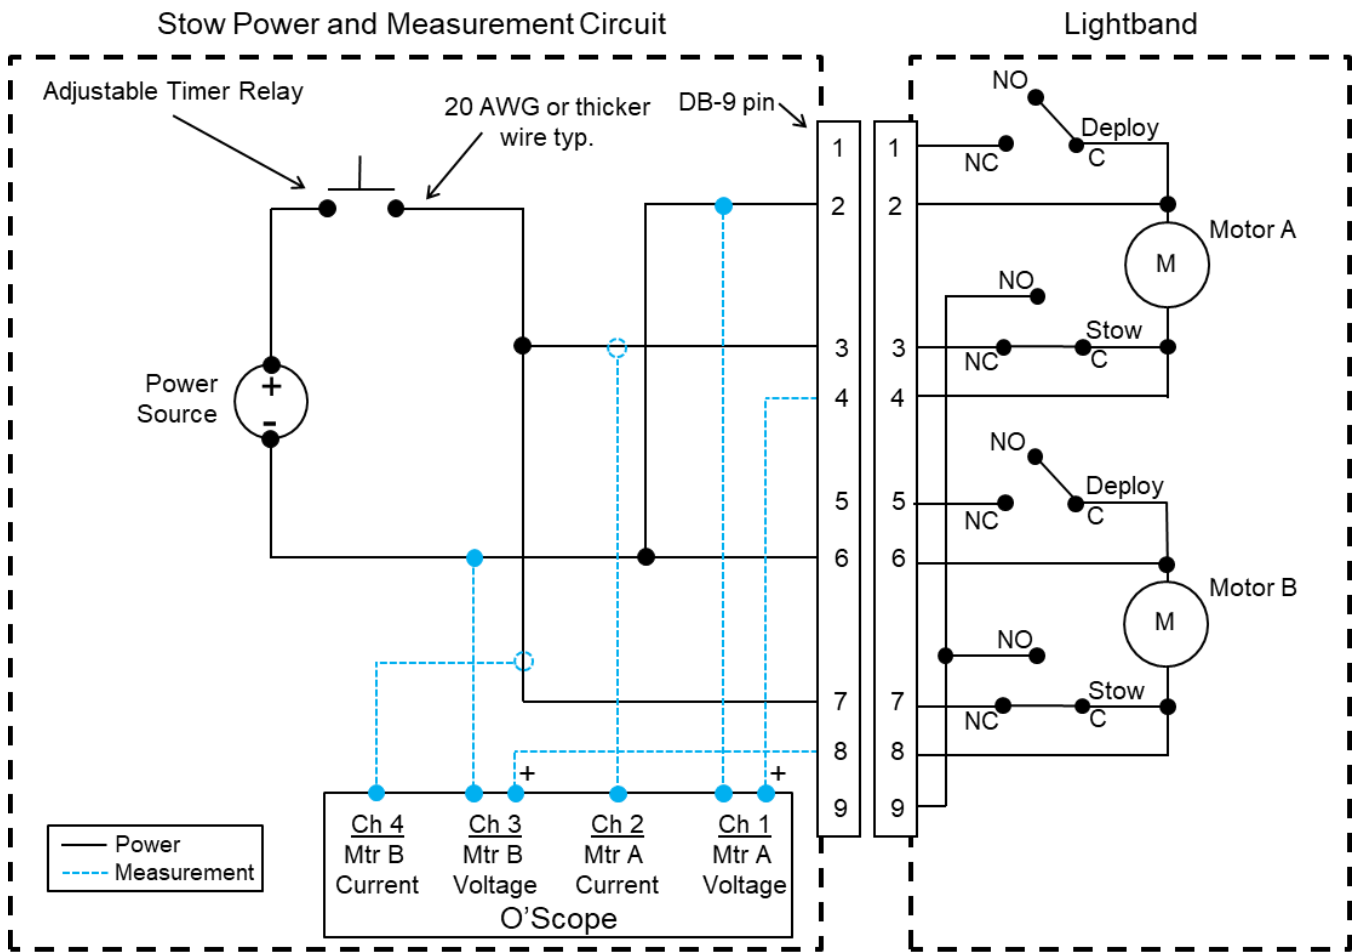

Figure 9-4: Stow circuit
9.4.1	Verify the DB-9 pin connector of the Stow Power and Measurement Circuit in Figure 9-4 is visibly clean. Any debris could detrimentally contaminate the Lightband's mating socket connector.
9.4.2	Connect the Lightband to the Stow Power and Measurement Circuit per Figure 9-4. Do not apply power to the Lightband.
9.4.11	Disconnect the Stow Power and Measurement Circuit in Figure 9-4 from the Lightband's DB-9 connector.